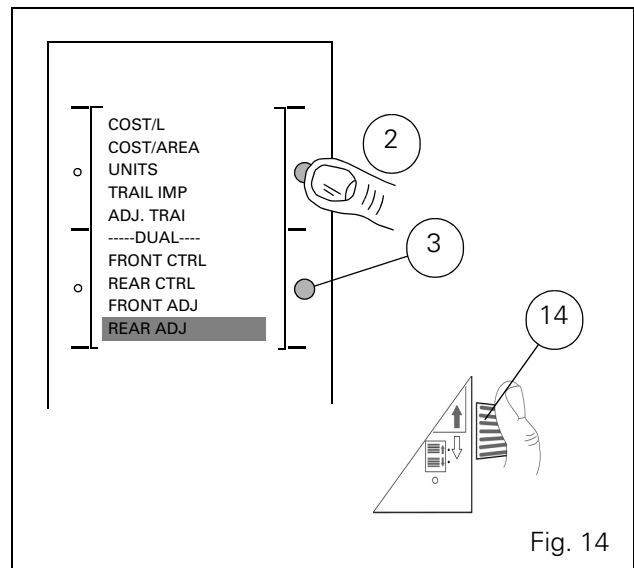

Fig. 14
Press key 2 or 3, (Fig. 14), drop-down menu appears. Select, **-REAR ADJ-**; four new symbols are displayed (Fig. 15).